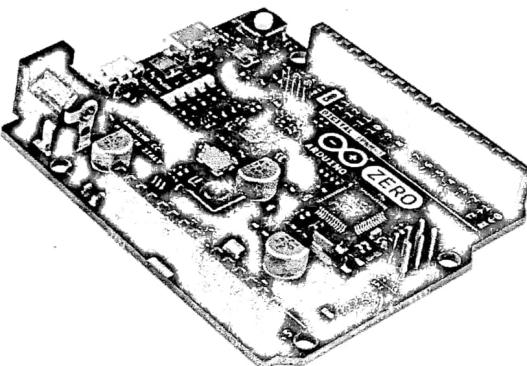

Fig. 14.1.2 : Arduino
- Typically, an Arduino board consists of a Microcontroller ATmega328, operating voltage varies between models, a variety of Analog input pins, digital I/O pins, Flash memory, SRAM (varies/KB), EEPROM (varies/KB), Clock speed which changes depending on model. The various models are discussed in Table 14.1.2 and an image of Arduino is shown in Fig. 14.1.2.